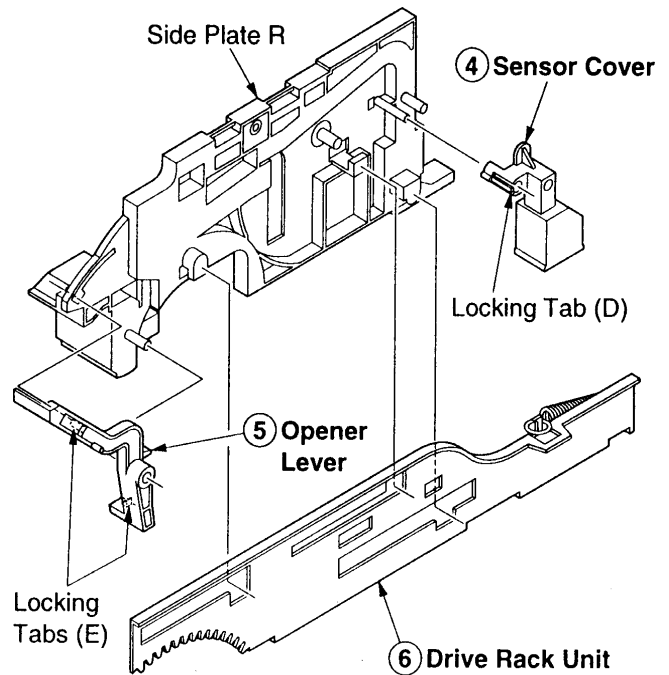

Fig. 29 - Sensor Cover/Opener Lever/Drive Rack Unit Removal
**Sensor Cover/Opener Lever/Drive Rack Unit Removal (Fig. 29)**
1. Remove the sensor cover by releasing one (1) locking tab (D).
2. Remove the opener lever by releasing two (2) locking tabs (E) and then remove the drive rack unit. ■